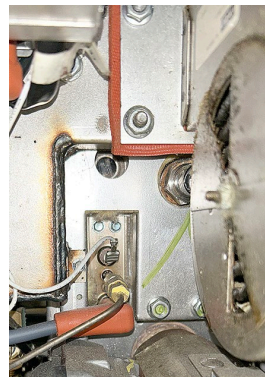

Figure 6
- d. Photo below the blower showing a close-up of the ignitor area (see Figure 6).